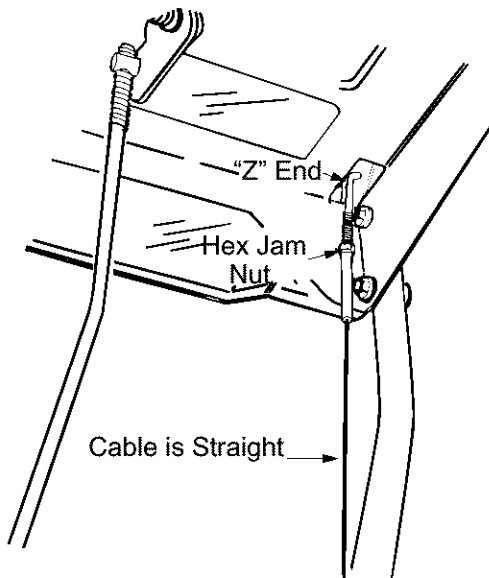

Figure 6
3. Thread the cable onto the threaded portion of the "Z" end until there is no slack in the cable, but the **cable is NOT tight. Do not overtighten cable.** See Figure 6.